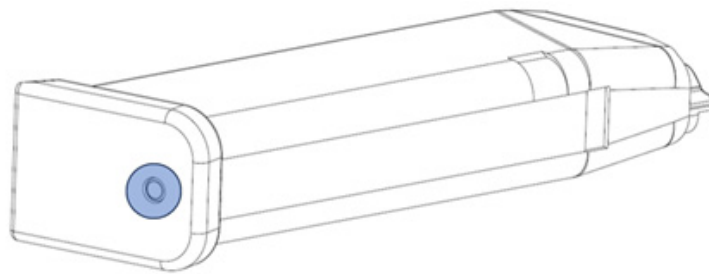
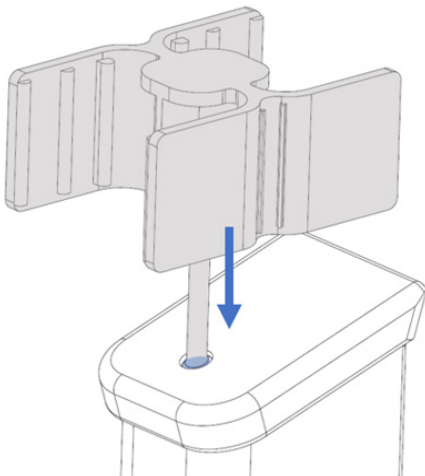

Figure 61: Retention pin indicator on the magazine's insert.
Figure 62: Positioning of the tool/punch to insert the retention pin of the magazine's insert.
3. The magazine’s insert includes a retention pin to secure in place the floor plate. Firmly hold the magazine with one hand. With the other hand, press the retention pin of the magazine’s insert inward using the Glock tool/punch (Figure 61 / Figure 62).